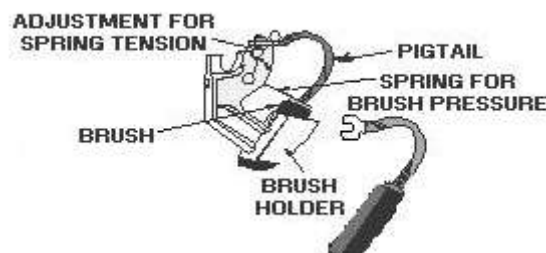

Figure.1.12. Construction of Pigtail brush and holder.
1.3.3.2. Brush Gear. Carbon brushes are mounted on the commutator and with the help of two or more carbon brushes, current is collected from the armature winding. Each brush is supported in a metal box called a brush box. The brushes are pressed upon the commutator and form the connecting link between the armature winding and the external circuit. A typical Pigtail brush and holder is shown in the figure 1.12.